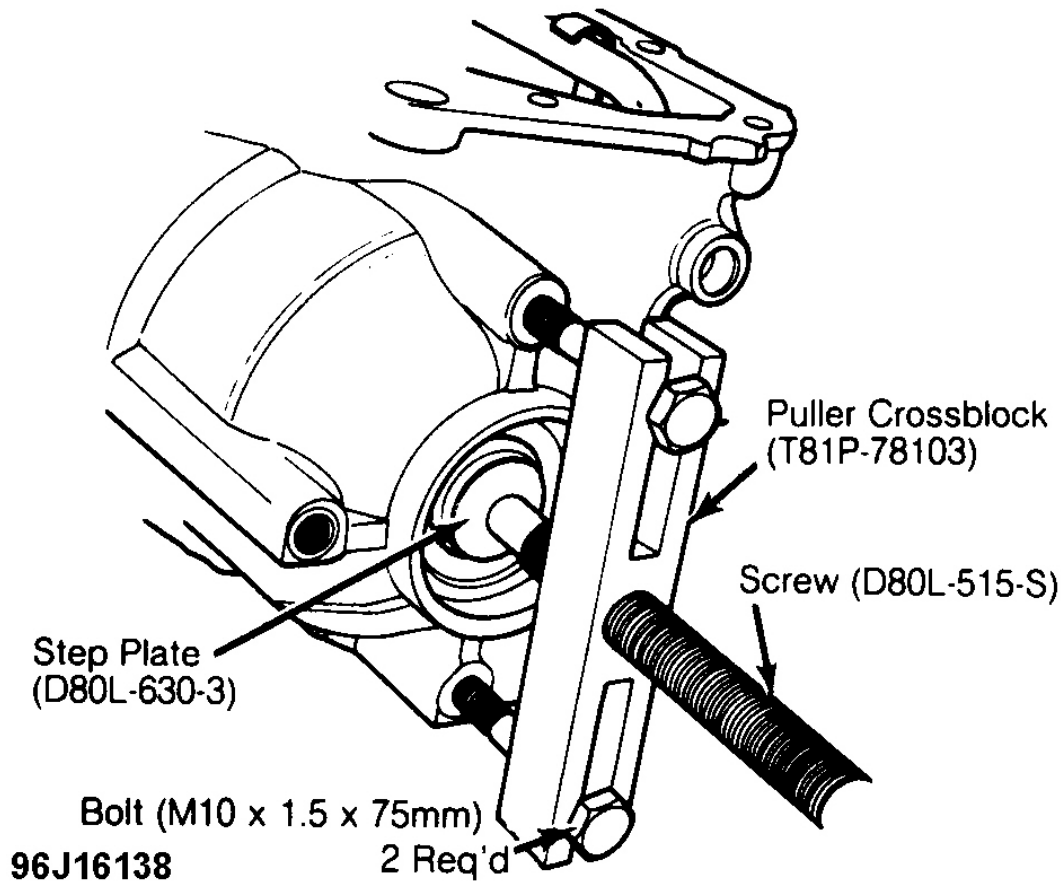

Fig. 31: Installing Thrust Washer Tool
3. Install Crossblock (T81P-78103-A), Step Plate (D80L-630-3) and Screw (D80L-515-S), over right-hand output shaft opening. See **Fig. 31**. This tool will be used later to perform selective thrust washer checks.